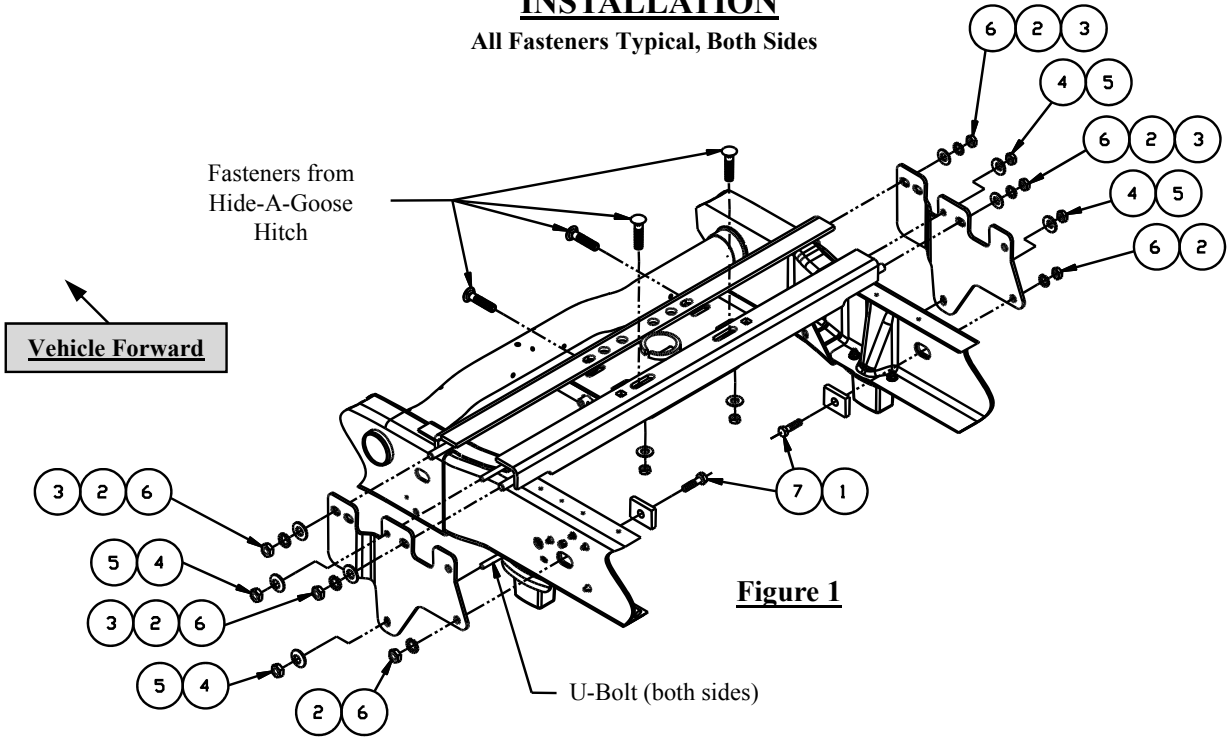

Figure 1
8. Line up the mounting slots on the frame brackets with the threaded studs on the ends of the cross members. See Figure 6 to identify which holes on the frame brackets to use. Loosely attach frame brackets to cross members with 5/8" hex nuts, lock washers and flat washers as shown in Figure 1.
9. Use the U-Bolts to attach the frame brackets to the frame as shown in Figure 1.
11. Attach the frame bracket to the frame through the slot in the frame using the 5/8" x 2-1/2" bolt, lock washer and nut as shown in Figure 1.
12. Loosely install the Hide-A-Goose hitch to the rearward cross member. Place 5/8" carriage bolts through the square holes on the vertical leg of the forward cross member and attach the hitch to the horizontal mounting locations (see figure 1 and refer to the Hide-A-Goose hitch instruction sheet).